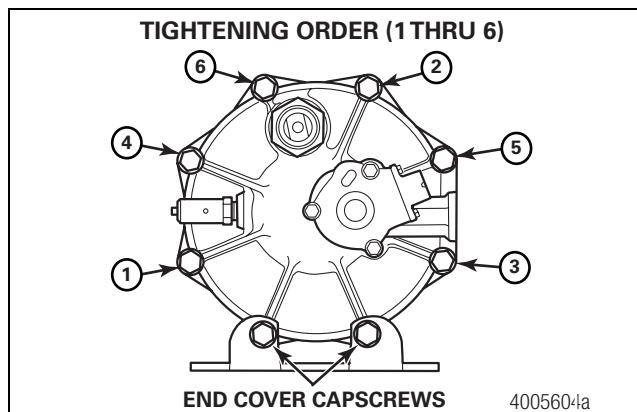

Figure 2
- Place the outer housing over the desiccant cartridge. Align the holes, then install the six short capscrews, locknuts and 12 special washers. Verify that they are in the correct position as marked during disassembly. Tighten the six capscrews in the numeric sequence shown to 270-385 lb-in (30.51-43.5 N·m). Figure 2.
- Use the two long end cover capscrews, locknuts and special washers to secure the air dryer to the bottom bracket. Tighten the screws to 270-385 lb-in (30.5-43.5 N·m). Figure 2.